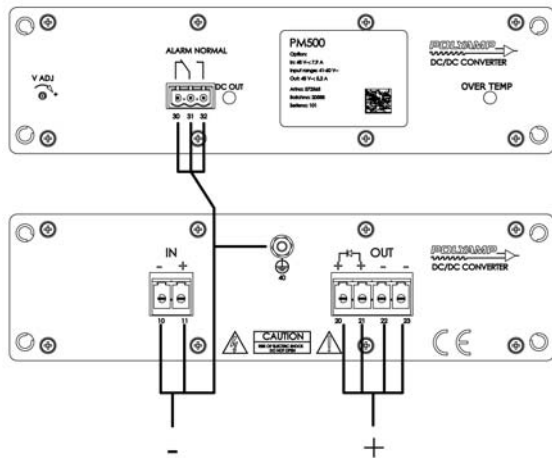

Figure 6. Output to case isolation voltage test.
- Connect your isolation tester between output and case. See *Figure 6*.